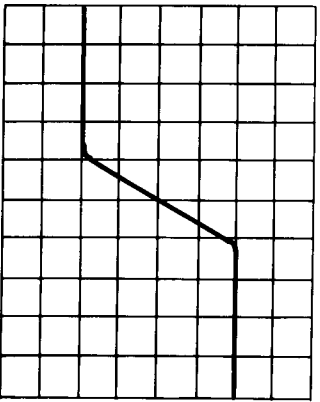

Figure 17b. Time Interval Measurement Using Delayed Time Base - Pulse 1
3. Select DLY'D sweep and adjust the DELAY control so the 50% amplitude point of the first pulse is on the center vertical graticule line (see figure 17b). Note the DELAY control reading.